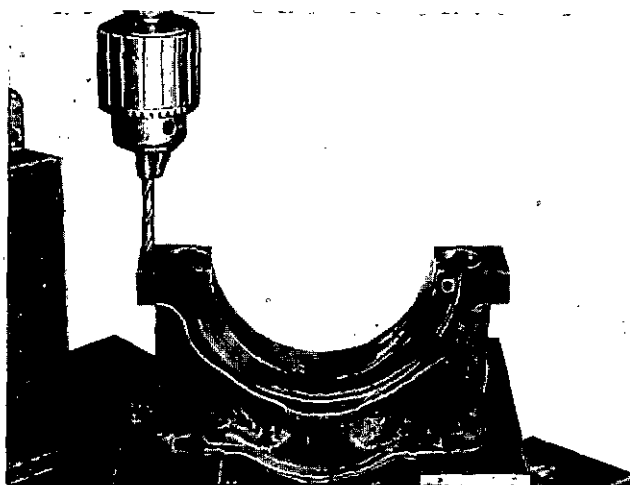

Fig. 1-45. Drill The Dowel Hole In The Rear Main Bearing Cap.
- c. Remove the cap. Use a center punch to put a mark for the location of the dowel holes. Drill the dowel holes in the cap with a 15/64 inch drill, Fig. 1-45.